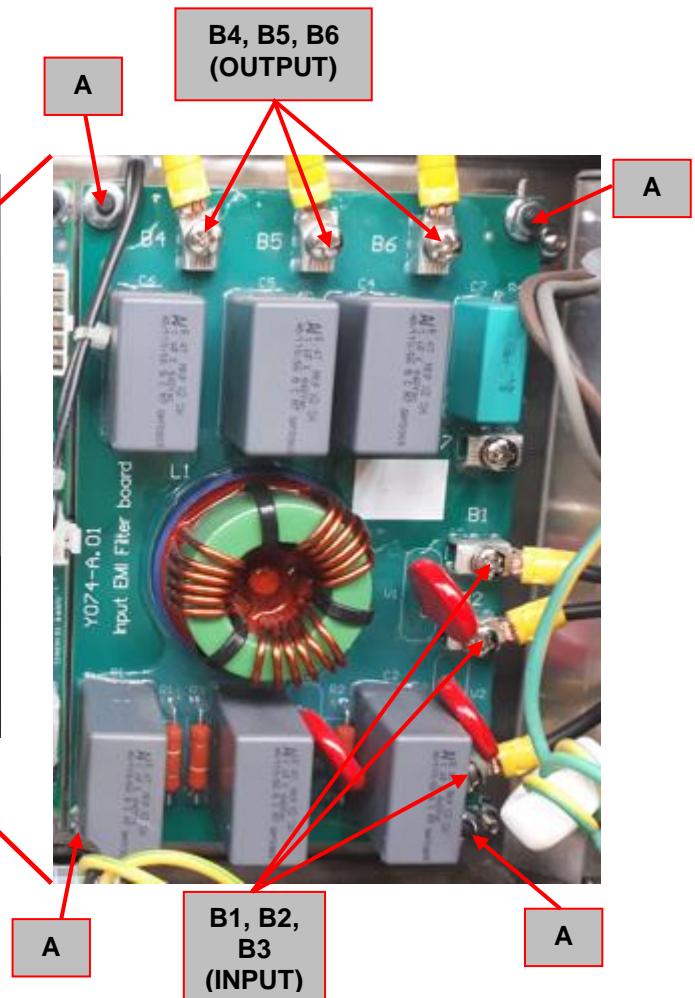

Figure 20
4. Using the screwdriver PH02 remove the 3 input cables **B1, B2, B3** and the 3 output cables **B4, B5, B6**. See **Figure 20**.